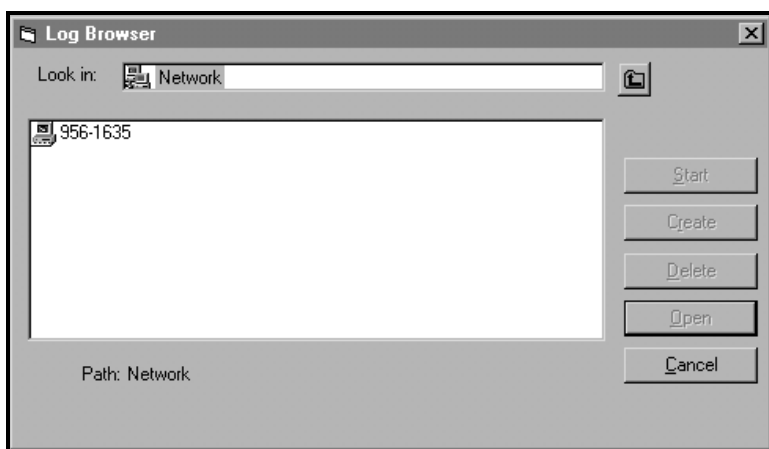

Figure 76: Computer Selection
- Click on the “*Log Browser*” option. The dialog box shown in Figure 76 appears.